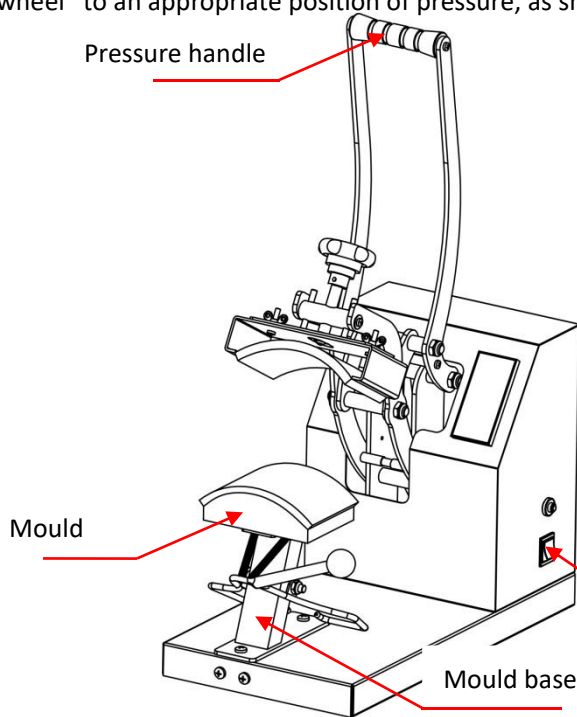
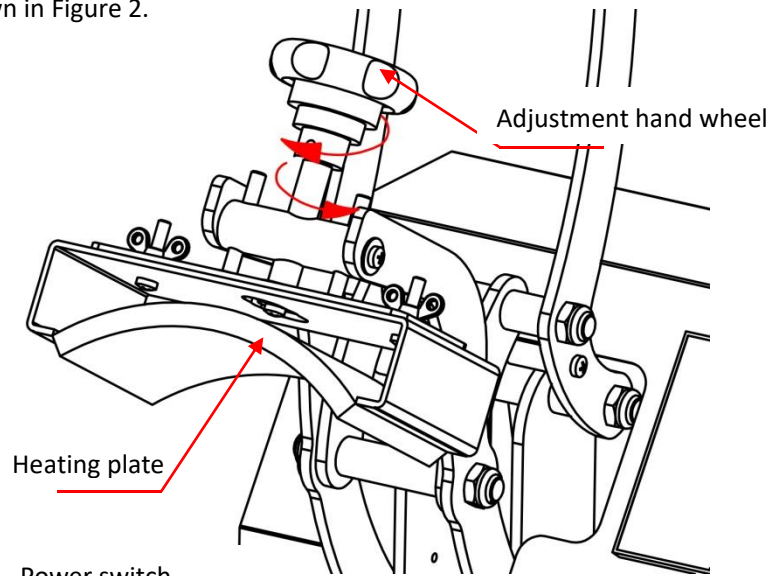

Figure 1
Figure 2
1. Remove the package and cable ties, lift the pressure handle, as shown in Figure 1. Rotate the “adjustment hand wheel” to an appropriate position of pressure, as shown in Figure 2.
2. Connect the machine to power supply, turn the “power switch” on, as shown in Figure 1. (Rated voltage: V, rated power: W)